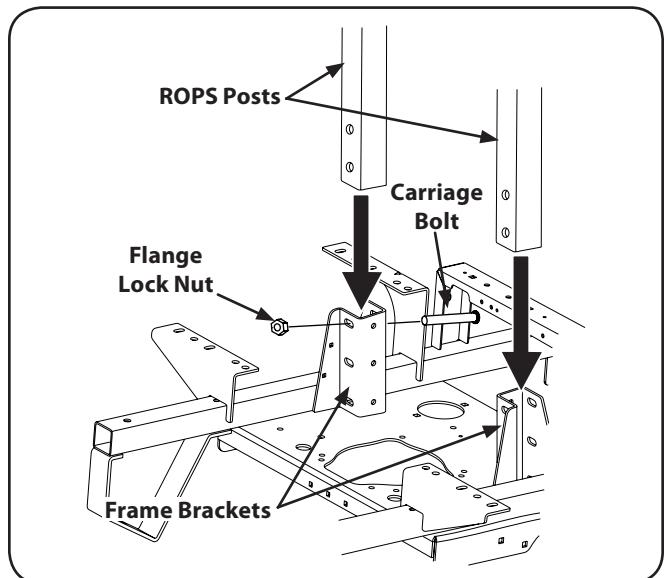

Figure 3-2
1. Insert each of the lower section ROPS tubular "posts" into the brackets welded to the unit main frame. See Fig. 3-2.
NOTE: The ROPS pivot holes should be positioned toward the rear of the unit. See Fig. 3-2.
2. Insert the carriage bolts ($\frac{1}{2}$ -13 x 3.25) (one per side) from the front toward the rear. See Fig. 3-2. Alternately from the rear toward the front if access is restricted.
3. Three holes are provided on each side. Use the Upper hole and one of the other two remaining holes that is easily accessible. Install the retaining nuts, but do not tighten. See Fig. 3-2.
6. Tighten the frame mounting hardware to 80-90 lb.-ft. torque. See Fig. 3-2.